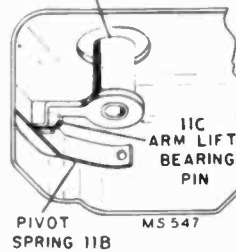

FIG. 6
1. With the mechanism out of cycle, lift tone arm and check, and make certain tone arm lift 16 engages pin 11C as shown in fig. 6.